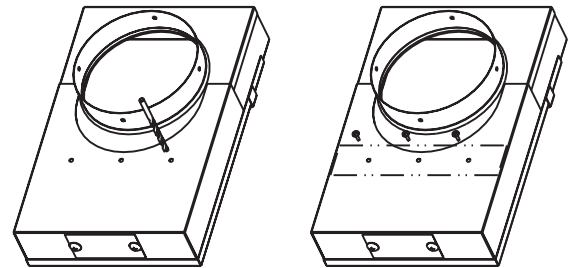

Figure 18.3
2. Slide the gasket over the flue collar and attach it to the offset adapter using the 8-32 flathead screws provided (**Figure 18.3**).
4. Cut the gasket to the proper length and slide in between the upper and lower chambers centered on the screw holes. Attach the upper and lower chambers with screws provided (**Figure 18.3**).